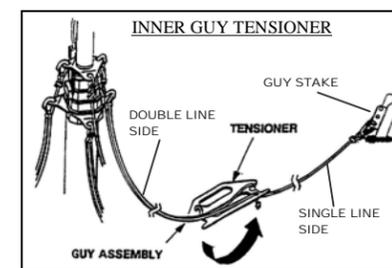
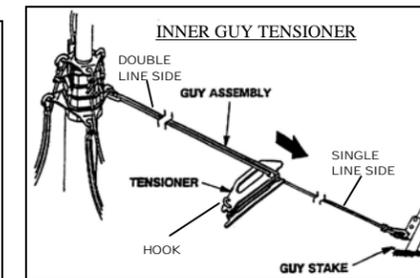

Figure 8
Figure 9
13. Unwrap the four inner guy tensioners and attach the black snap hooks to the lower (6") guy plate (black) and the green snap hooks to the lowest hole on the inner guy stakes. Note that the snap hooks should be fastened from underneath the guy plate. See Fig. 6 and Fig. 8.
17. Remove the slack in one of the inner guy tensioners by winding the trailing end of the guy line around the tensioner. See Fig. 8.
18. Tension the line by sliding the tensioner toward the guy stake and lock it by placing the guy tensioner hook over the double guy lines. See Fig. 9.
5. After the mast is fully nested, hold the mast vertical and release the four inner guy tensioners to slacken the lower guy lines. (Ref. Fig. 8 and Fig. 9)